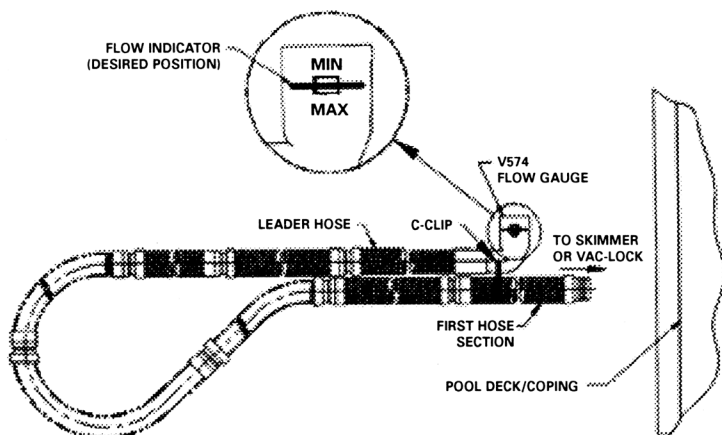
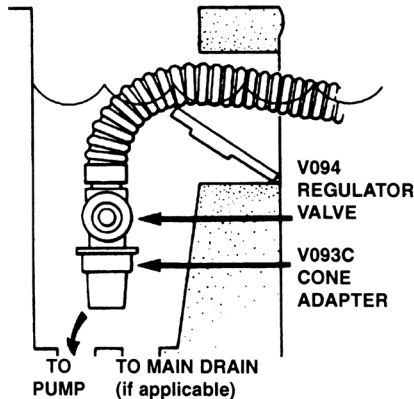

Figure 2
Figure 4
The hose should reach from the skimmer or Hayward Vac Lock® to the furthest point in the pool, **plus two (2) extra hose sections.** (The length of each hose section is four feet.) **This extra length is absolutely necessary for proper operation of your Hayward Cleaner.** If the hose is not long enough, it will be necessary to purchase additional hose sections from your Hayward dealer. The hose length supplied has been determined to be sufficient for the class and size of pools for which each type of cleaner is sold – 40 feet for PV XL & NAV Pro, 32 feet for PV Classic. If your hose requirement is more than this, you must obtain additional hose sections for your cleaner to work properly. After the correct hose length has been assembled, fill hose completely with water. Insert Flow Gauge into the leader hose, then attach the C-Clip of the gauge onto the first hose section. Make sure the Flow Gauge is under water. (see Figure 2)
Check the water flow reading on the Flow Gauge. (Refer to Step 4, Figure 2). The black disk should be in the box between the “MIN” and “MAX” markings. If the setting is higher than required with the black disk outside of the box on the “MAX” side and you have connected your hose to the skimmer, it will be necessary to reduce the vacuum/water flow by using a valve or valves in the filter system, or the Hayward V094 Regulator Valve or an optional Hayward Automatic Skimmer Vacuum Plate designed to adjust vacuum/water flow. To install the V094 Regulator Valve, turn the filter system off, remove the hose from the V093C Skimmer Cone, and after closing the Regulator Valve (Rotate the blue collar clockwise until tight), insert the Valve into the Skimmer Cone, and insert the hose end into the Valve (see Figure 4).
If you have connected your hose to the Hayward Vac Lock, it will be necessary to adjust the vacuum/water flow using the 3-way valve at the filter system. The handle on the valve should be turned so that the Flow Gauge which is installed in the Cleaner hose reads properly (*refer to Figure 2*). After the 3-way valve has been properly adjusted, **the 3-way valve should be marked so that the water flow can be adjusted by referring to the valve handle mark**, rather than reinstalling the Flow Gauge in the hose each time an adjustment is necessary.
Some skimmers have two (2) holes in the bottom. There might be a valve, float or cover over the holes. Remove everything in the skimmer, exposing the holes. The rear hole is usually the suction port. In some cases it will be necessary to use the V094 Regulator Valve to control water flow through the Cleaner (see *Figure 4*).